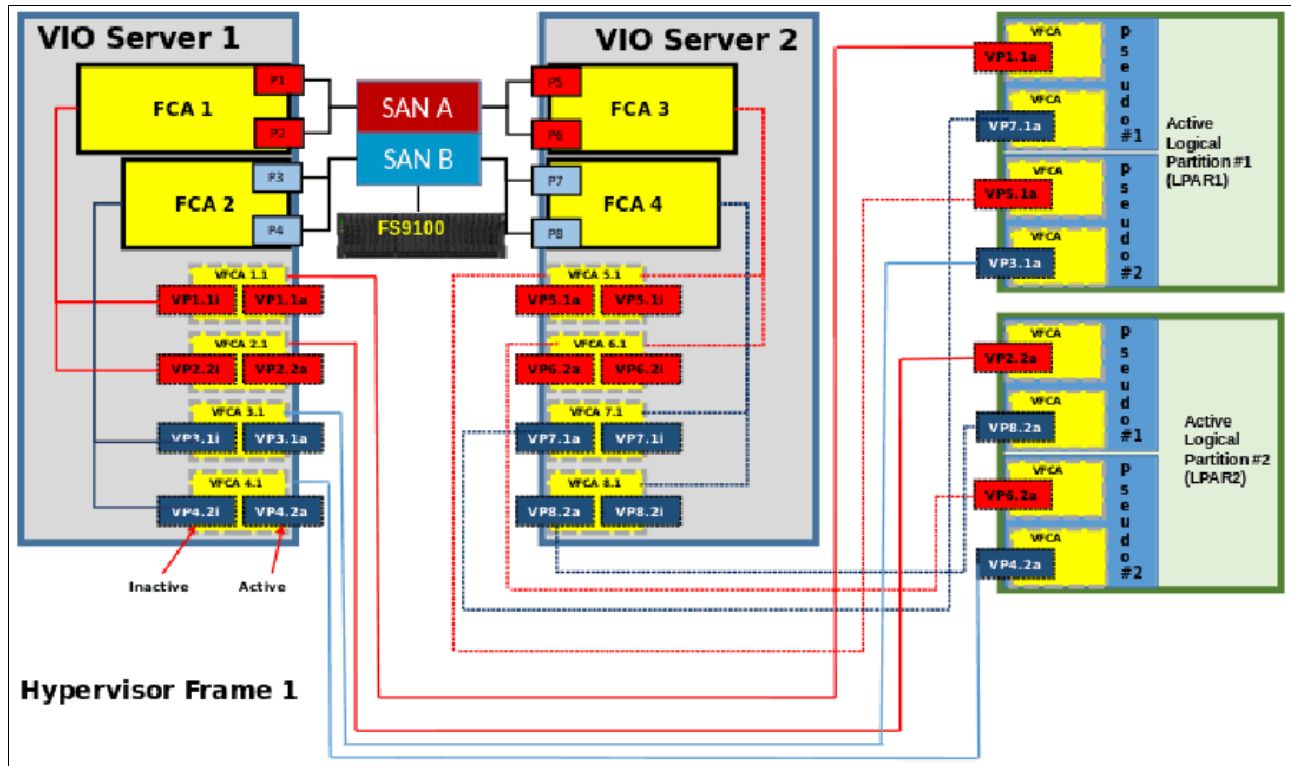

Figure 2-46 LPARs SAN connections
- ▶ Create a pseudo-host in IBM Spectrum Virtualize host definitions that contain only two virtual WWPNs (one from each fabric), as shown in Figure 2-46.
Figure 2-46 shows the correct SAN connection and zoning for LPARs.